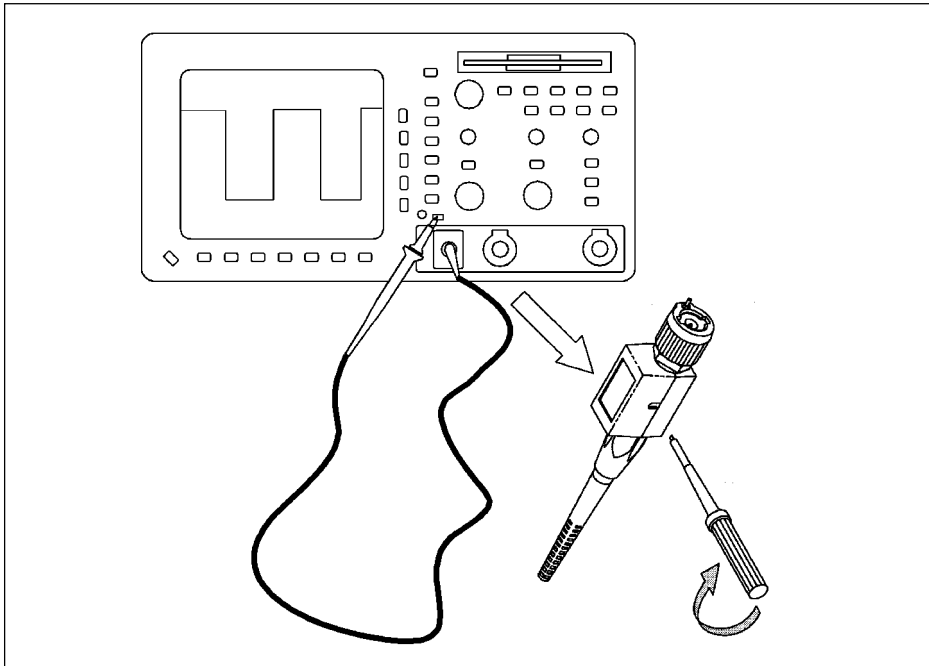

Figure 1-10. Probe compensation adjustments are done either at the probe head or at a compensation box where the box attaches to the scope input.
2. Attach the probe tip to the probe compensation test point on the scope's front panel (see Figure 1-10).